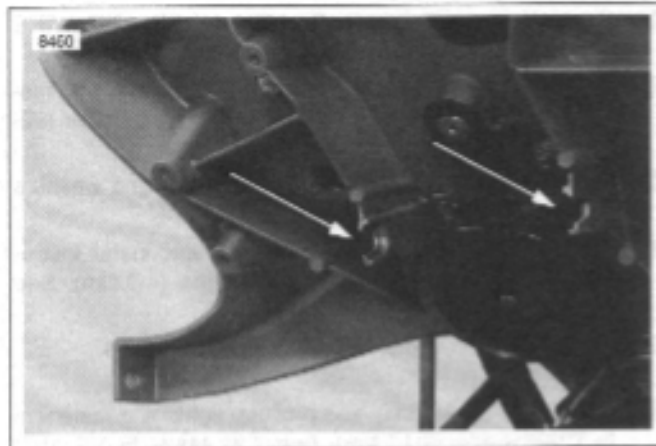

Figure 2-94. Headlamp Pivot Groove
1. See Figure 2-94. Position headlight pivot fasteners into groove of the headlight support bracket, flat side of nut lined up with groove.